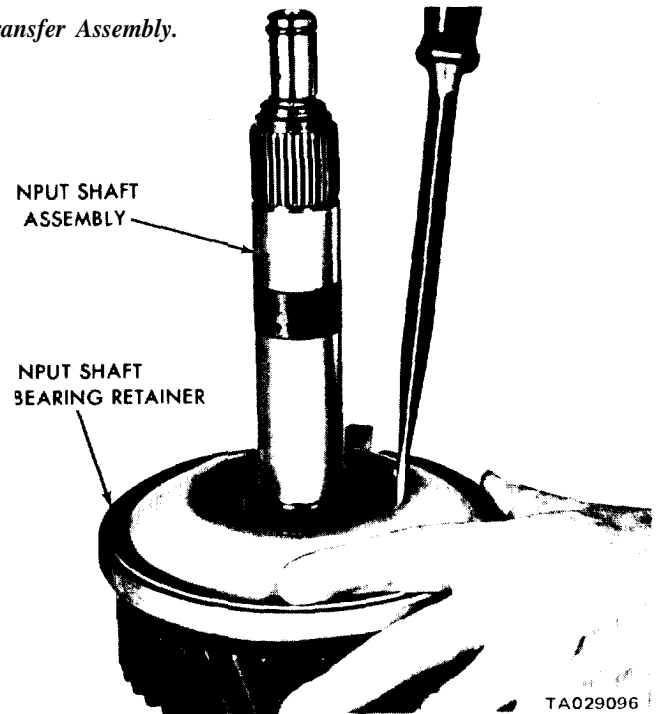

Figure 17-11. Removing Lockring.
(3) Tap the shaft out of low-speed gear. Look for the two thrust-washer pins in the shaft.
(4) With a screwdriver, remove the lockring out of the bearing retainer (figure 17-11). Tap the bearing out of the retainer bore.
(5) Remove the roller bearings (15) from the end of the input shaft.
(6) Remove and discard the "O" ring from the end of the shaft.
(7) Clean and inspect all components. Replace them if worn or damaged.